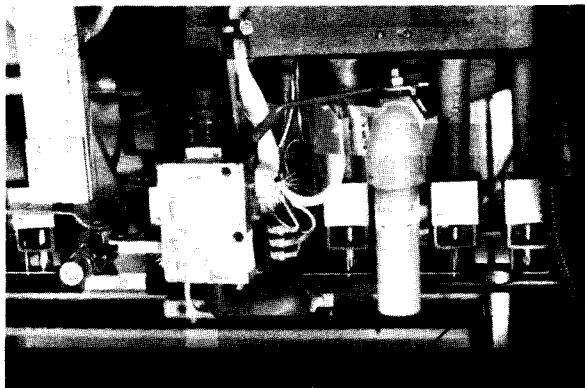

Figure 29
19. Remove push-pull rod from rear oil return valve (Fig. 29).